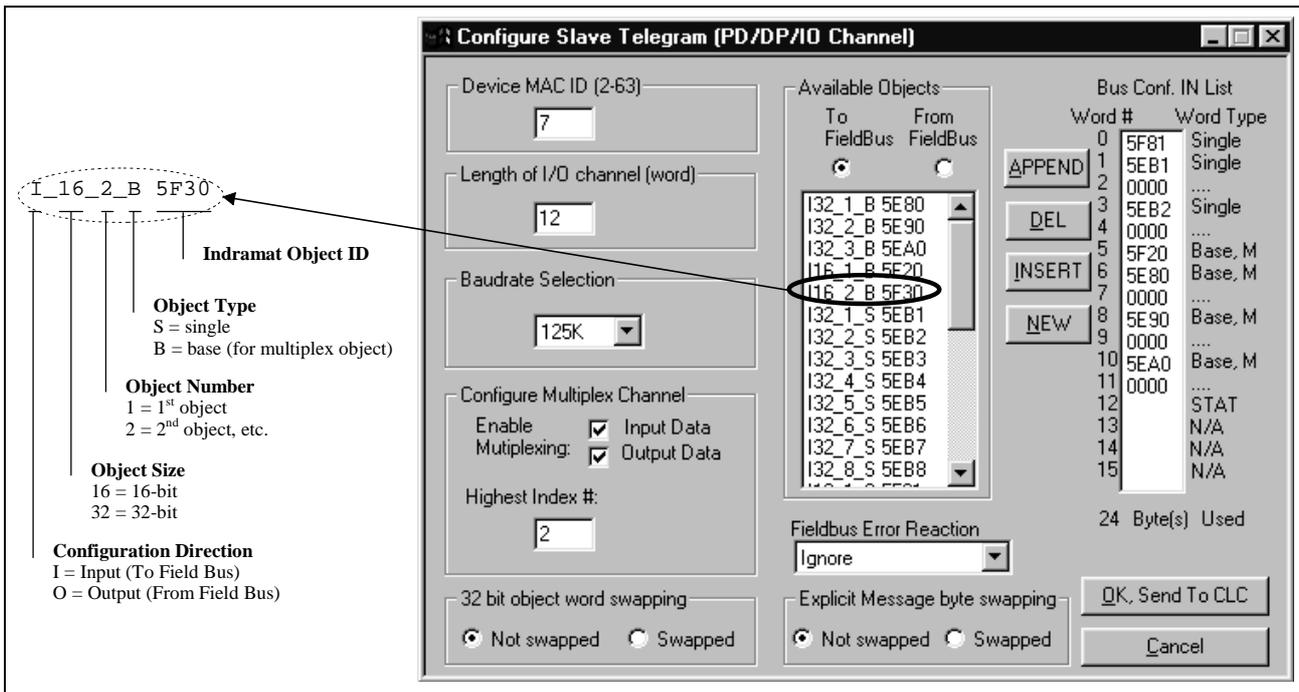

Figure 2-14: Configuring the DeviceNet Configuration IN List (with Multiplexing)
15. For each data type desired, choose a corresponding available object in the list on the left and click "APPEND" to place it at the end of the "Bus Conf. IN List." Each available object has a typecode to identify its size and type. Figure 2-14: Configuring the DeviceNet Configuration IN List contains a description of the typecode.